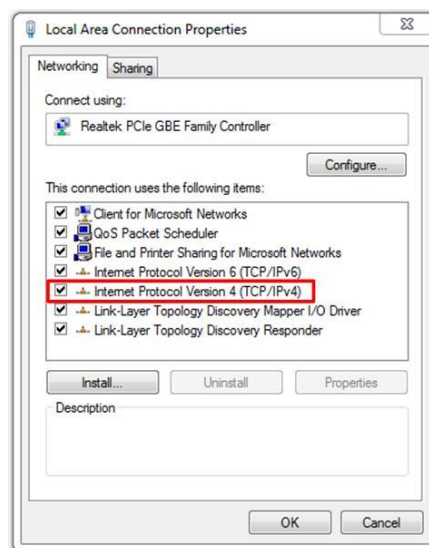

Figure 3-8 Windows Network Connections properties page
Step 6: From the Local Area connection Properties window, double-click on "Internet Protocol Version 4 (TCP/IPv4)". See Figure 3-8.